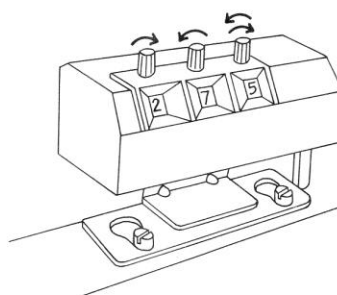

Fig.24
- b) The row counter registers single units on the right, tens in the centre and hundreds on the left. It counts automatically up to 999. (Fig.24)
- c) The numbers on the row counter may be adjusted or returned to zero by turning the adjusting knobs on the top of the counter. (Fig.24)
(Fig.24)